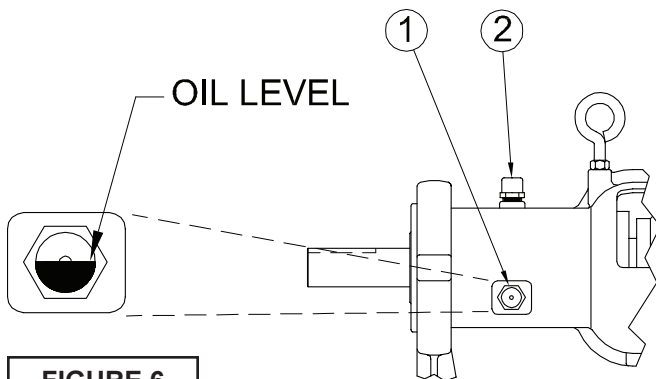

FIGURE 6
Bullseye Glass (See Figure 6)- Observe pump shaft bearing oil level through ©bullseye[®] glass plug (item 1) located on the right hand side of the bearing pedestal (when looking from the motor side). The oil level should be up to the center of the bullseye. It should be noted that in order for both bearings to be lubricated properly, the pump must be mounted level. If the oil level is low, remove vent plug (item 2) and add SAE 30 non-detergent oil. Replace vent plug (item 2) when finished refilling.